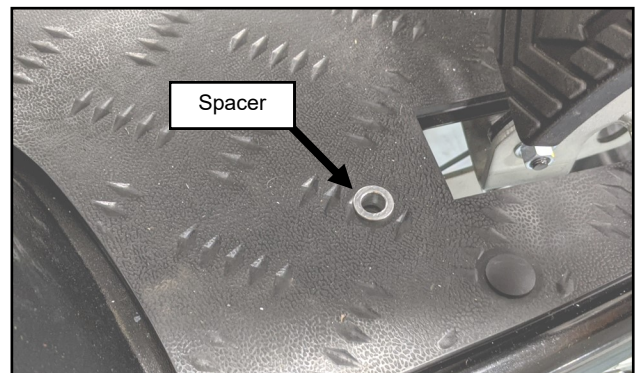

Fig. 1.7 (Install Spacer)
- 1.7 Install the supplied aluminum spacer in the hole in the right side floor mat. See Figure 1.7.